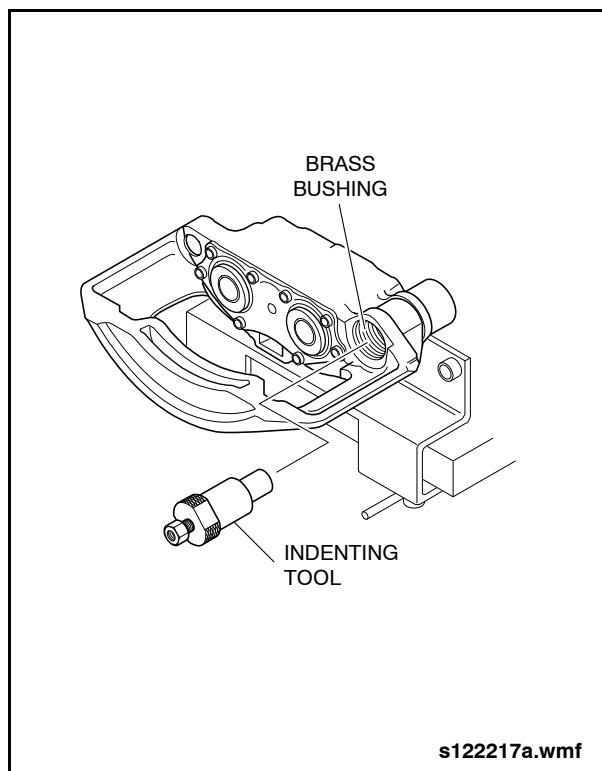

Fig. 2-131: Indenting Tool Installation
- c. Insert the indenting tool (Item 74 from special tools list) into brass bushing from the outside until the stop is contacted. See "Fig. 2-131: Indenting Tool Installation" on page 114.